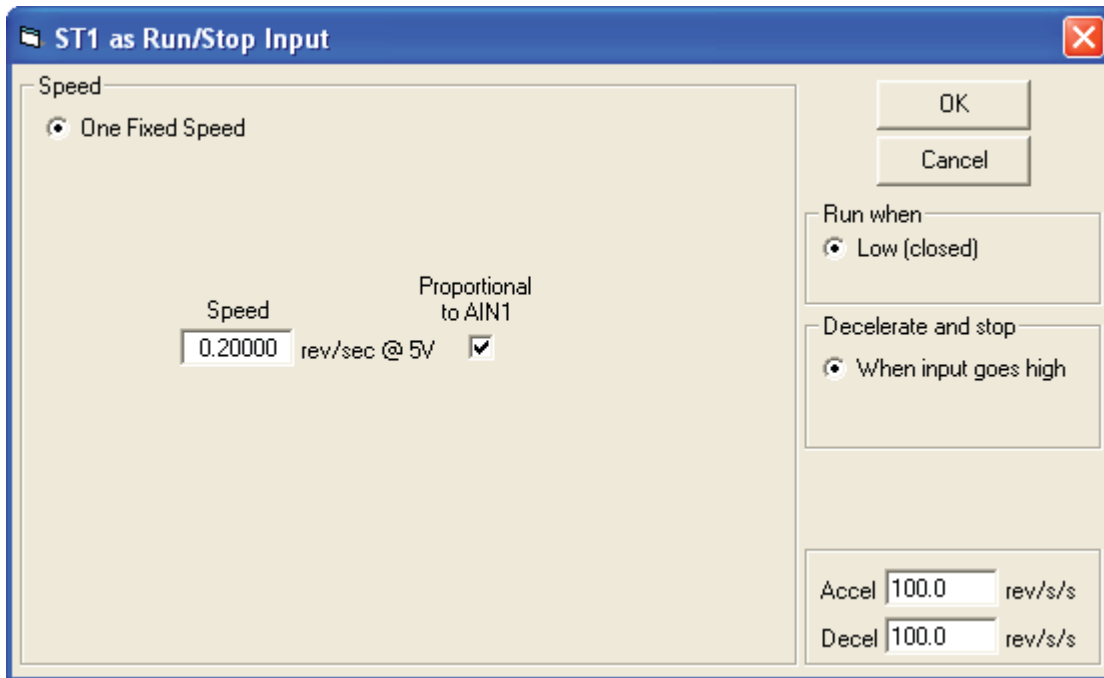

Figure 13. Run/Stop screen.
- Run/Stop Mode. Figure 13 shows the screen pertaining to this mode. The motor will be active if input ST is actuated. Input DR will make the motor turn in one direction or the other, depending on its state. The motor speed is proportional to the analog input if the checkbox is selected.